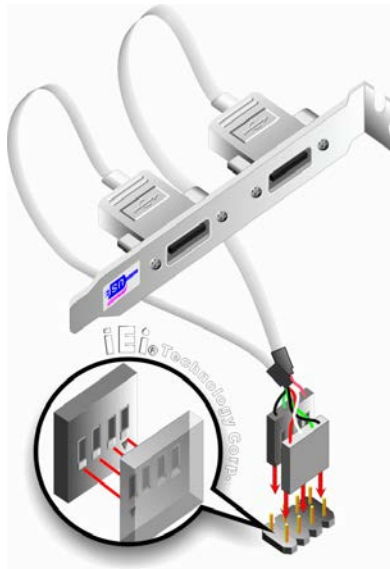

Figure 4-11: Dual USB Cable Connection
Step 3: Insert the cable connectors Once the cable connectors are properly aligned with the USB connectors on the IOWA-LX-600, connect the cable connectors to the on-board connectors. See Figure 4-11.